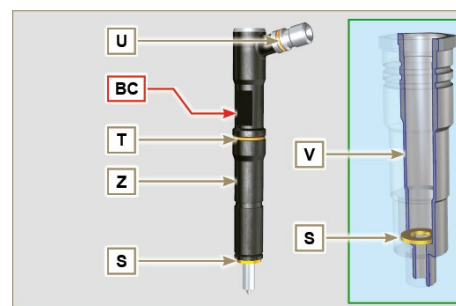

Fig 6.7
4. Ensure that gasket **S** has remained in the correct position (**Fig. 6.7**). Otherwise, recover the gasket from inside the electronic injector **V** manifold.